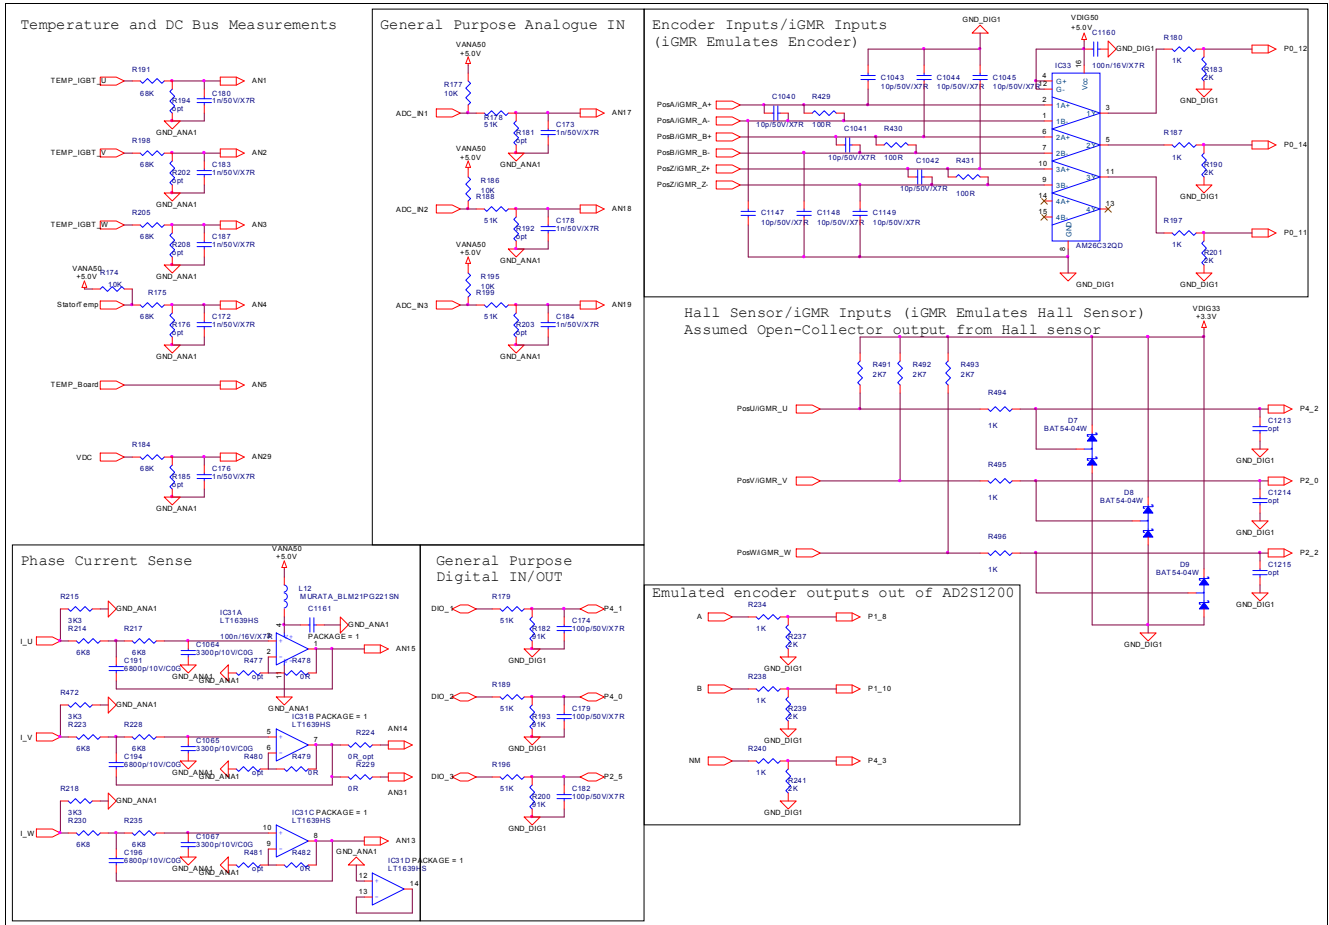

Figure 66 Input Filter
- Input filter (see Figure 66): passive filters for digital and analogue signals and voltage dividers for voltage level adaptation
Phase current sensing signals should be connected to the Logic Board connector X1-SIG1 to the pins I_U, I_V and I_W (Figure 66). The Logic Board is designed to work with current transducers (not provided with the Hybrid Kit) with voltage output proportional to the current (usually deploying Hall effect - like LEM sensors). User can take +5V (analog) available on the X1-SIG1 pins to supply current transducers. The exact type of current transducer will depend on many parameters in application, but usually the most important is the motor current consumption. Please notice that if you control 3-phase balanced synchronous system it is enough to measure just 2 phases, since the 3rd phase current can be calculated as algebraic combination out of the 2 measured currents. The microcontroller is able to convert synchronously two phase currents, it's recommended to do an accurate current measurement.
TLE5012 supports Hall sensor interface mode as well (iGMR emulates Hall sensor mode). For this purpose to the connector X1-SIG inputs PosU/iGMR_U (phase U), PosV/iGMR_V (phase V) and PosW/iGMR_W (phase W) should be connected. Please notice (on Figure 66) that the pull-up resistors to 3.3 V (R491, R492 and R493) are already provided on the Logic Board. For more details on Hall sensor mode please refer to the TLE5012 data sheet.